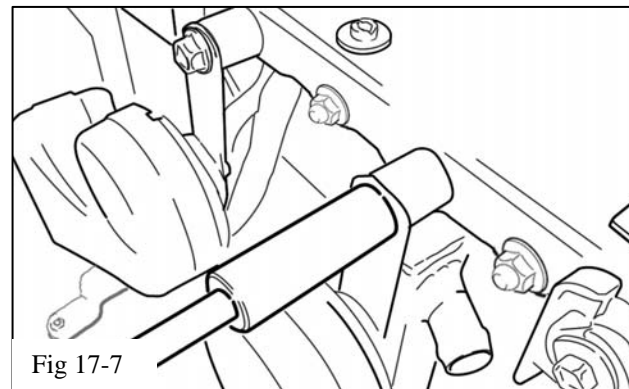

Fig 17-7
- (i) Reinstall the horns using the spacers (A8) and new M8X30 bolts (A9) (Fig 17-7). **Torque: 12 Nm (9 ft lbf)**